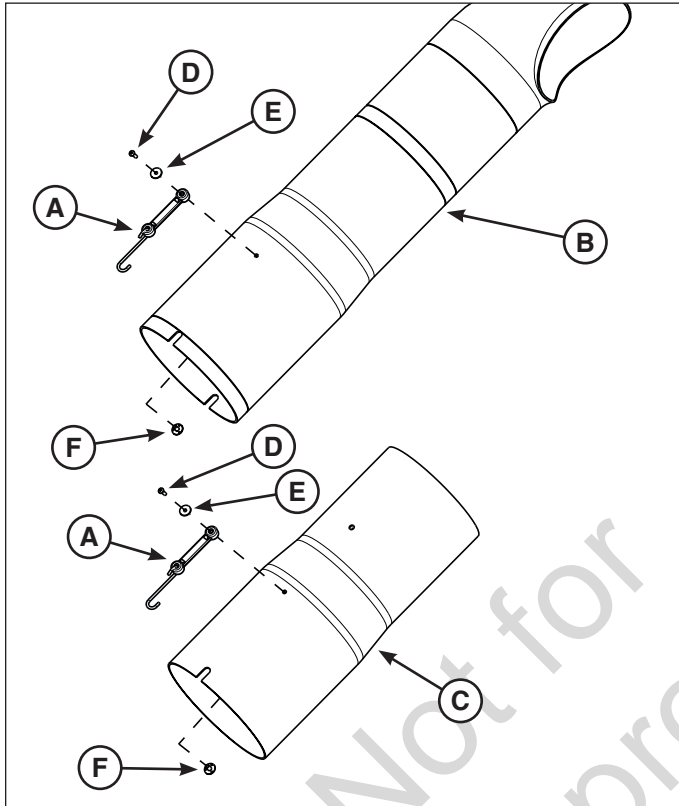

Figure 6
1. Install the two mounting straps (A, Figure 6) onto the upper catcher tube (B) and lower catcher tube (C) as shown, attaching each with a #10 machine screw (D) and 3/16" washer (E), and securing with a #10 weld nut (F). Tighten securely.